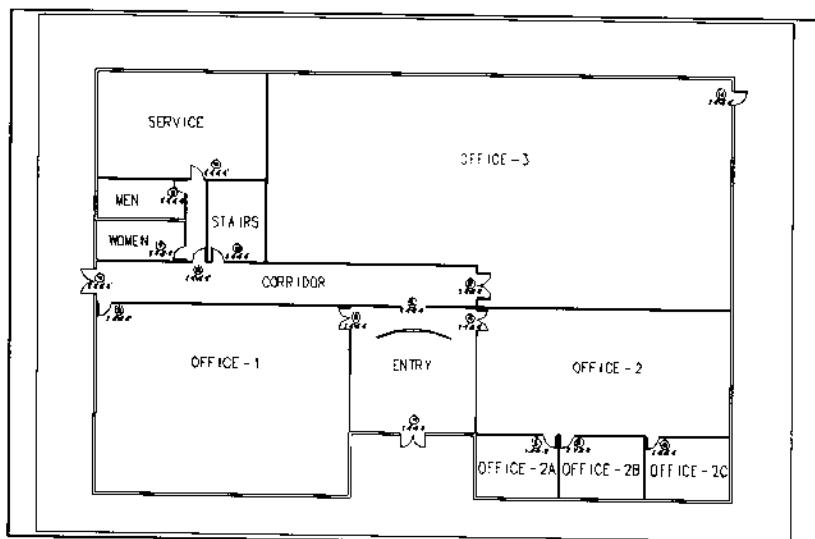

Figure 17.
2. The revised Floor Plan with all the doors inserted is shown in Figure 17.